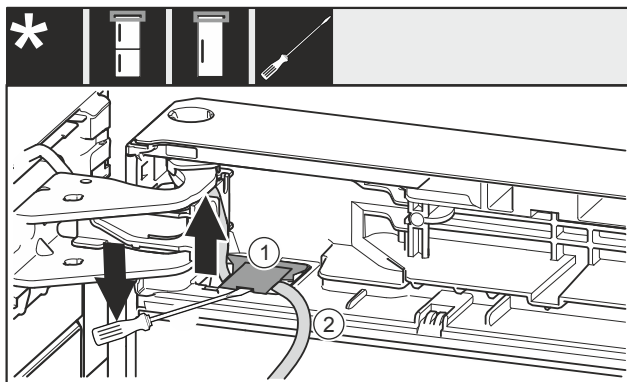

Fig. 15
- Use the slotted screwdriver to lift the cover Fig. 15 (1) up and pull it out.
- Pull out the cable Fig. 15 (2).